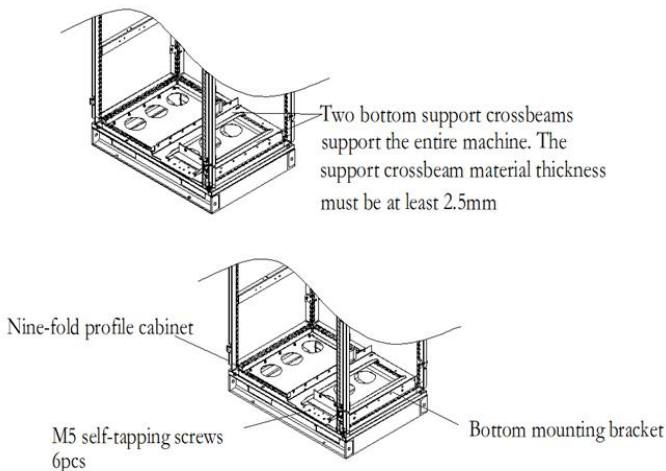

Figure 4-13 Bottom bracket mounting diagram
2	Fix the bottom support crossbeams and mounting bracket in the cabinet. (See Figure 4-13.)
2. Fix the bottom support crossbeams and mounting bracket. (See Figure 4-13.)